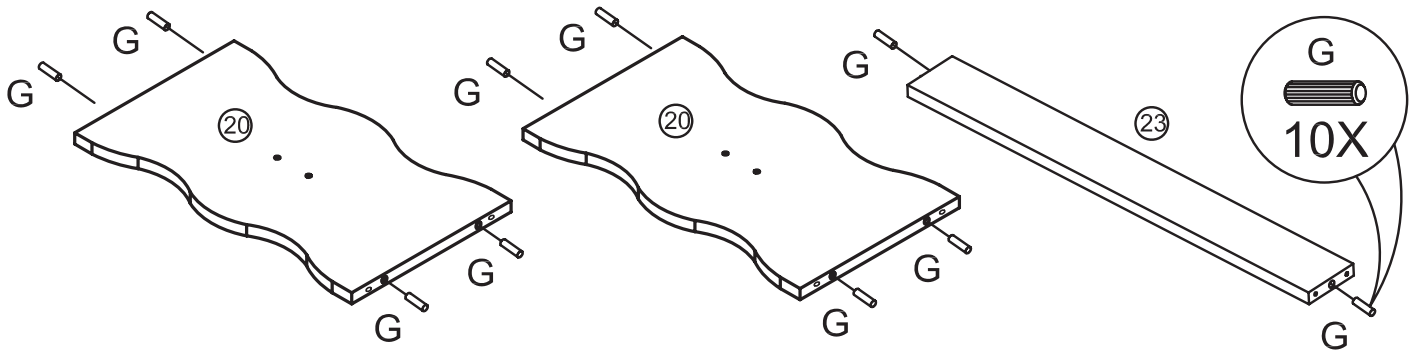

Figure 1
- Lay table Legs (20) and Crossbar (23) flat down on a material that does not scratch the parts.
- Insert Wood Dowels (G) into the designated holes at each end of the parts as shown in Figure 1